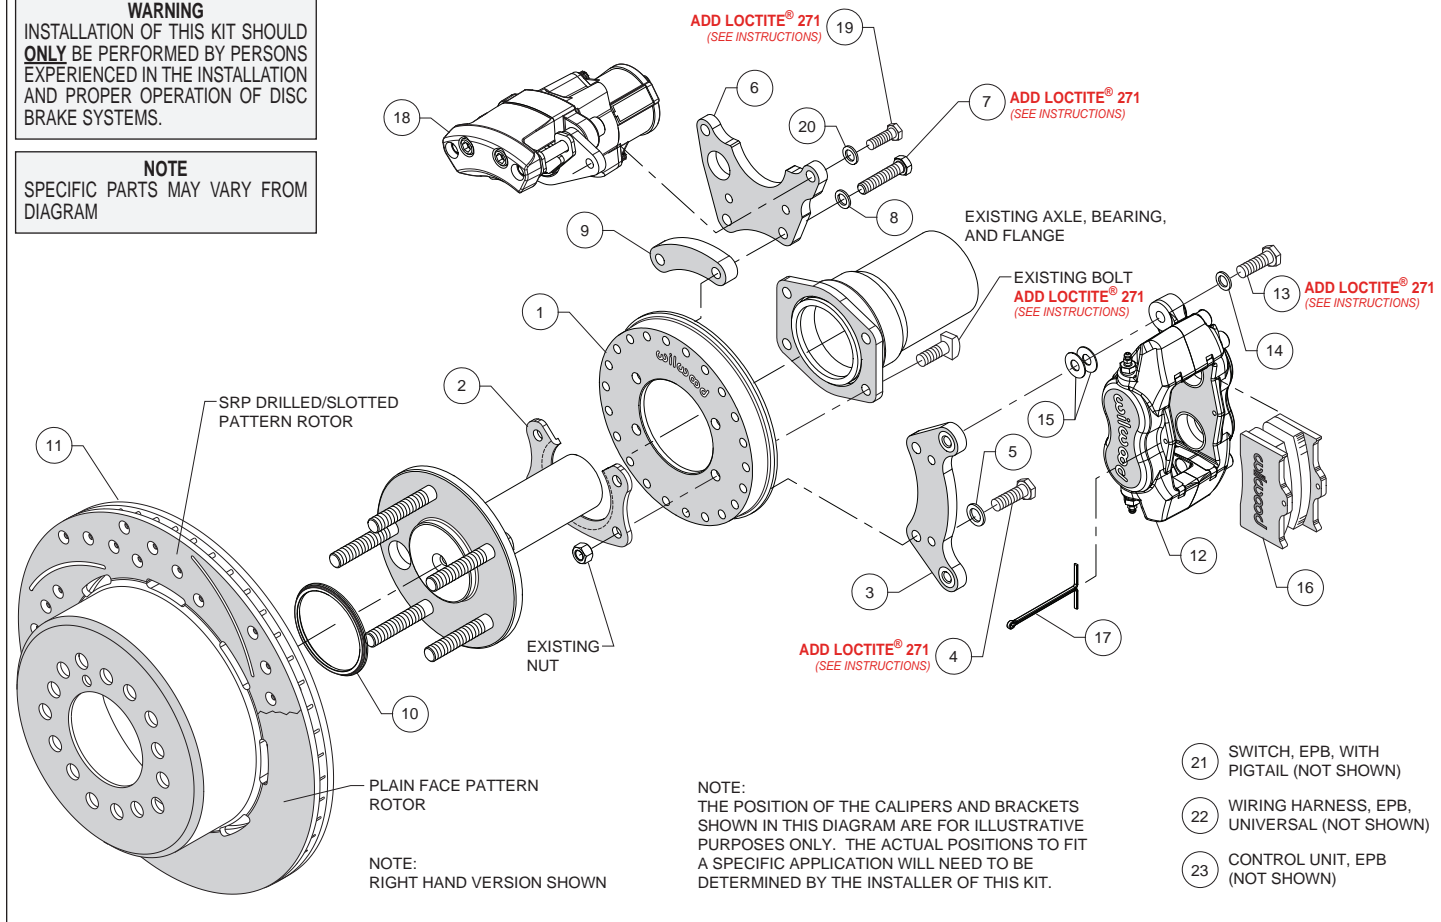
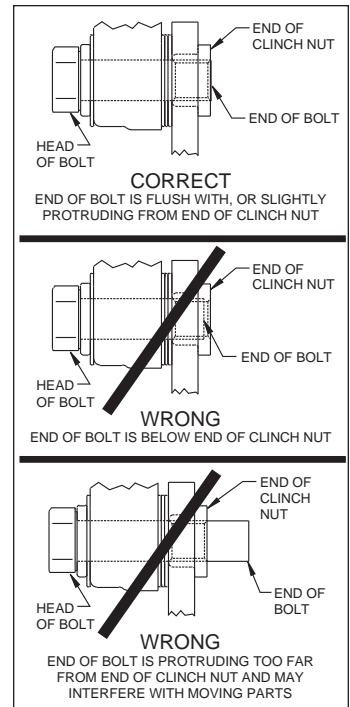

Figure 1. Typical Installation Configuration
Figure 5. Clinch Nut Engagement Diagram
(numbers in parenthesis refer to the parts list, and Figure 1 on the preceding pages): **CAUTION:** All mounting bolts must fully engage clinch nuts. Be sure to check that all bolts are either flush or protruding through flanged side of clinch nut after shimming, Figure 5.
- Orient the backing plate (1) as shown in Figure 1 and Photo 1, and slide it onto the axle housing flange. Ensure the backing plate fits flush against the axle housing flange. Reinstall the axle into the axle housing.
- Install the bearing retainer (2) with the opening pointing upward and the lip facing inward (toward the bearing), as shown in Figures 1 and 4, and Photo 2. Secure retainer and backing plate to the axle housing flange using the Original Equipment Manufacturer (OEM) bolts and nuts, Figure 1 and Photo 3. Apply red *Loctite*® 271 to the OEM bolt threads and torque to OEM specifications.
- Start by determining the best location for the service caliper (12). This caliper is usually mounted in the 3:00 or 9:00 o'clock position, but may be rotated up or down approximately 45 degrees and still allow for proper bleeding, Photo 4. Orient the service caliper bracket (3) as shown in Figure 1 and Photo 5, and install to the backing plate (1) in the desired location using bolts (4) and washers (5). Temporarily tighten bolts. Next, mount the service caliper to the bracket using bolts (13) and washers (14). Temporarily tighten bolts. Check that the caliper (including inlet fitting and hose) has sufficient clearance to all surrounding components through the full suspension travel. Relocate the caliper/bracket on the backing plate as needed to ensure proper clearance is achieved.
- Determine the best location for the EPB caliper (18). **NOTE:** *The EPB caliper motor extends farther inboard than the service caliper and therefore needs additional consideration when determining a mounting location with sufficient clearance.* In the example application shown in Photo 6, the EPB caliper has sufficient inboard clearance to the leaf spring. However, if the EPB caliper were mounted closer to the 12:00 o'clock position, the inner body of the vehicle would hit the caliper during full compression of the suspension.
•Orient the EPB caliper bracket (6) as shown in Figure 1 and Photo 7, and install to the backing plate (1) in the desired location using bolts (7), washers (8), and spacer (9). Temporarily tighten bolts. **NOTE:** The EPB bracket is reversible. In one direction the bracket will position the EPB caliper closer to the service caliper, and vice versa if reversing the bracket. Next, mount the EPB caliper (18) to the bracket using bolts (19) and washers (20). Temporarily tighten bolts. **NOTE:** EPB calipers are Left and Right handed, however they can be used on either side of the vehicle to best suit your specific application. Check that the EPB caliper (including wiring harness connector) has sufficient clearance to all surrounding components through the full suspension travel. Relocate the EPB caliper/bracket on the backing plate as needed to ensure proper clearance is achieved.
•Once the caliper positions have been determined, remove both the service (12) and EPB (18) calipers, leaving both brackets in place on the backing plate. For both brackets, remove the bolts one at a time, apply red *Loctite*® 271 to the threads, and torque to 35 ft-lb.
•Slide the rotor registration adapter (10) onto the register on the axle flange with the smaller O.D. facing toward the rotor/hat (11), Photo 8. Align the correct hole pattern in the rotor/hat with the stud pattern on the axle flange and slide into place, Figure 1. **NOTE:** The rotor/hat must fit flush against the axle flange or excessive rotor run out may result. Install three lug nuts (finger tight) to keep the rotor/hat assembly in place while continuing with the installation. **NOTE:** Some OEM and after market axles come with stud sizes larger than 0.50" diameter. Verify stud size and have a qualified machine shop drill the bolt circle of the hat/rotor to the correct stud size, if necessary.
•**NOTE:** Please reference the caution statement at the beginning of the assembly instructions. Remount the service caliper (12) onto the caliper mounting bracket (3) using bolts (13) and washers (14), as shown in Figure 1. Initially place two .035" thick shims (15) on each bolt between the caliper and the bracket, Photo 9. Temporarily tighten the mounting bolts and view the rotor (11) through the top opening of the caliper. The rotor should be centered in the caliper, Photo 10. If not, adjust by adding or subtracting shims (15) between the bracket (3) and the caliper (12). Always use the same amount of shims on each of the two mounting bolts. **NOTE:** The end of each bolt must be flush with or slightly protruding from the head of the clinch nut, as shown in Figure 5. If necessary place spare shims (15) between washer (14) and caliper mounting ear to achieve the proper clinch nut engagement. Once the caliper alignment and clinch nut engagement are correct, remove the bolts one at a time, apply red *Loctite*® 271 to bolt threads, and torque to 40 ft-lb.
- Mount the EPB caliper (18) onto the caliper mounting bracket (6) using bolts (19) and washers (20), Figure 1. Apply red *Loctite*® 271 to bolt threads, and torque to 30 ft-lb.
- NOTE:** *The service caliper (12) in this brake kit utilizes a 1/8-27 NPT pipe thread inlet. OEM rubber brake hoses generally cannot be adapted to Wilwood calipers. The preferred method is to use steel adapter fittings at the caliper, either straight, 45 or 90 degree and enough steel braided line to allow for full suspension travel. Carefully route hoses to prevent contact with moving suspension, brake or wheel components. NOTE: Wilwood hose kits are designed for use in many different vehicle applications and it is the installer's responsibility to properly route and ensure adequate clearance and retention for brake hose components. Wilwood offers universal brake flex line hose kits, domestic (3/8-24 IF) chassis fittings, order:*